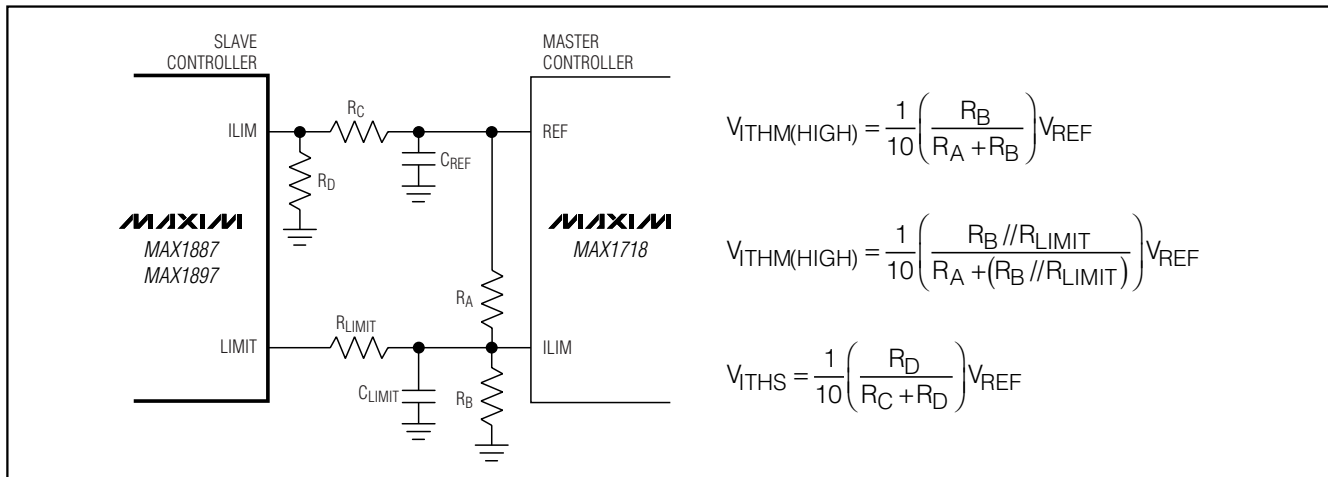

Figure 5. Setting the Adjustable Current Limits
where $V_{I\text{THM}}$, the master's current-limit threshold, is typically 1/10th the voltage seen at the master's ILIM input ($V_{I\text{THM}} = 0.1 \times V_{\text{LIM}}(\text{MASTER})$, see the master controller's data sheet). Connect a resistive voltage-divider from the master controller's internal reference to GND, with the master's ILIM input connected to the center tap (Figure 5). Use 1% tolerance resistors in the divider with 10 μ A to 20 μ A DC bias current to prevent significant errors due to the ILIM pin's input current:
where $V_{I\text{THS}}$, the slave's current-limit threshold, is precisely one-tenth the voltage seen at the slave's ILIM input ($V_{I\text{THS}} = 0.1 \times V_{I\text{LIM}}(\text{SLAVE})$). Connect a second resistive voltage-divider from the master controller's internal reference to GND, with the slave's ILIM input connected to the center tap (Figure 5). The external adjustment range of 400mV to 1.5V corresponds to a
Now select the resistive-divider values (R_A and R_B in Figure 5) to set the appropriate voltage at the master's ILIM input:
Select the resistive-divider values (R_C and R_D in Figure 5) to set the appropriate voltage at the slave's ILIM input:
- 4) Determine R_{LIMIT} (Figure 5) from the above equation: